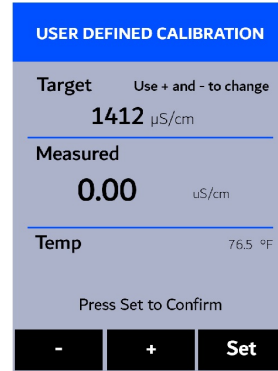

Figure 26.
6. Press **<** to select the **USER DEFINED CALIBRATION** screen (Figure 26).